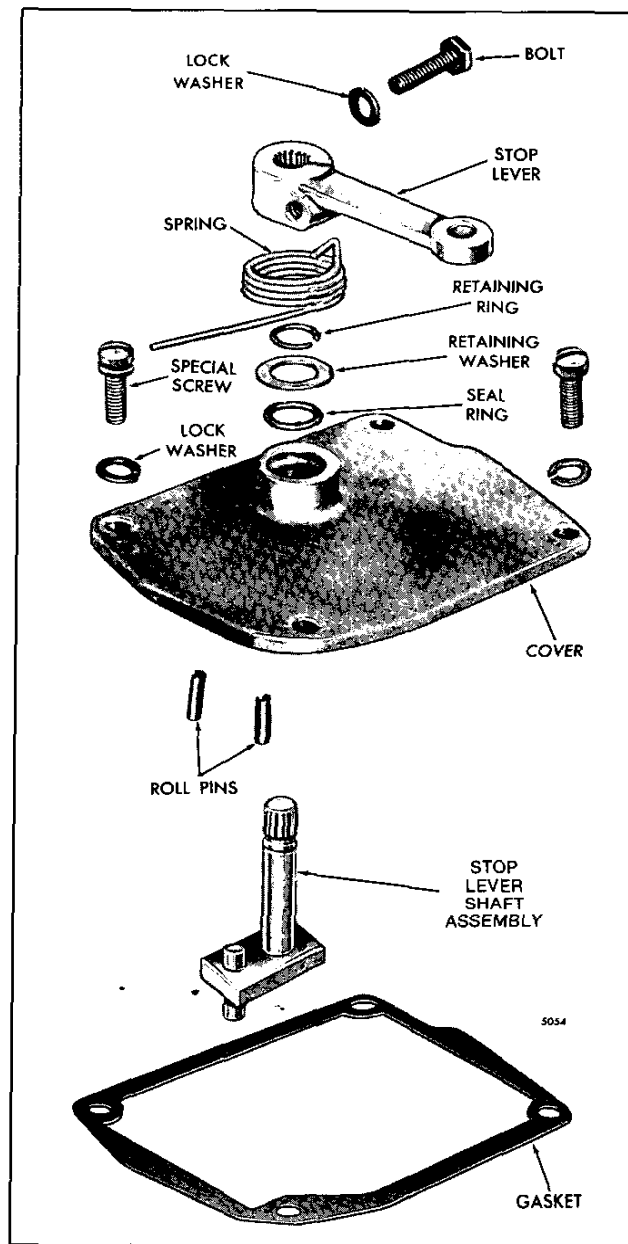

Fig. 2 – Governor Cover Details and Relative Location of Parts
3. Remove the retaining ring and seal retaining washer. Withdraw the throttle shaft from the cover (Fig. 2).